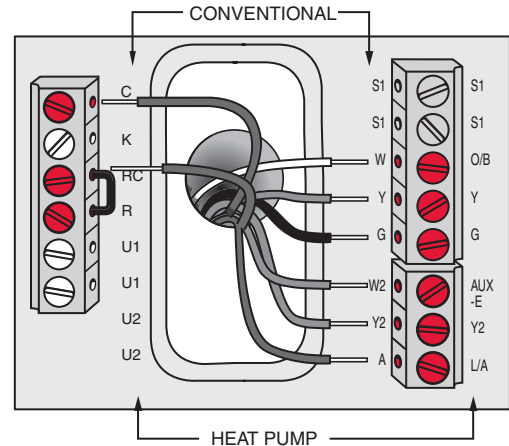

Fig. 312. Inserting wires in thermostat terminal block.
2. Loosen the screws for the appropriate terminals. Insert wires in the terminal block under the loosened screw. See Fig. 312 and 313.